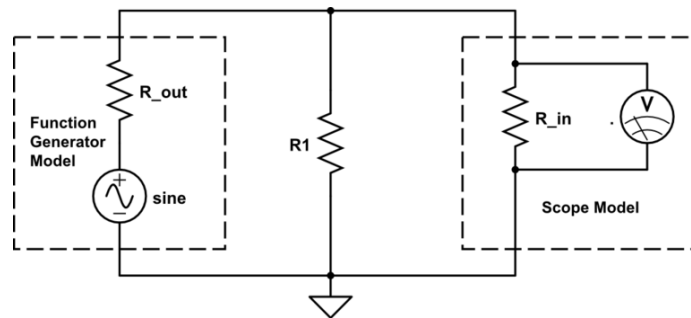

Figure 5: Function generator's internal resistance in series with an external resistor.
- Construct the circuit shown in figure 5, using the resistor decade box as  $R_1$ . If you set  $R_1$  to zero, you are shorting out the function generator. It does have overload protection circuitry so you won't harm it, but go ahead and start with the decade box set at 10 $\Omega$ .